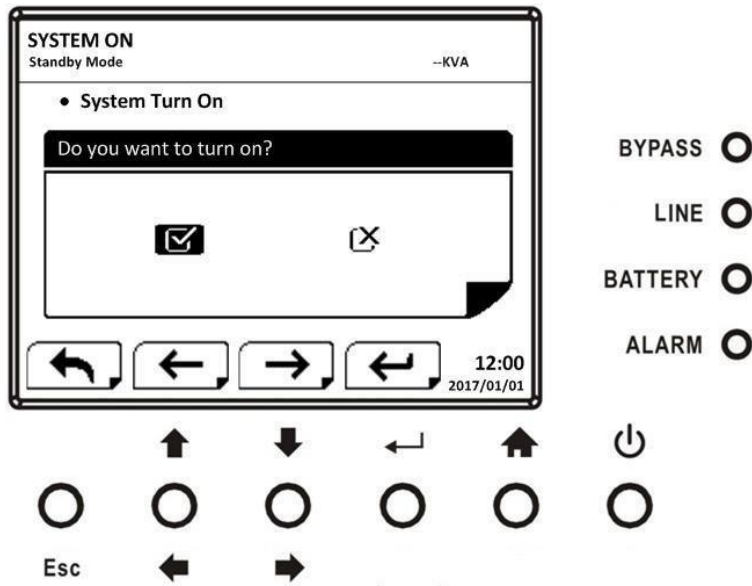

Figure 5-8 Confirmation screen
When the control option is selected by pressing “←” button, the confirmation screen will pop up. Use “←” or “→” button to choose “V” (YES) or “X” (NO). Choose “V” and press “←” button to confirm command or choose “X” to cancel command, as shown in Figure 5-8.